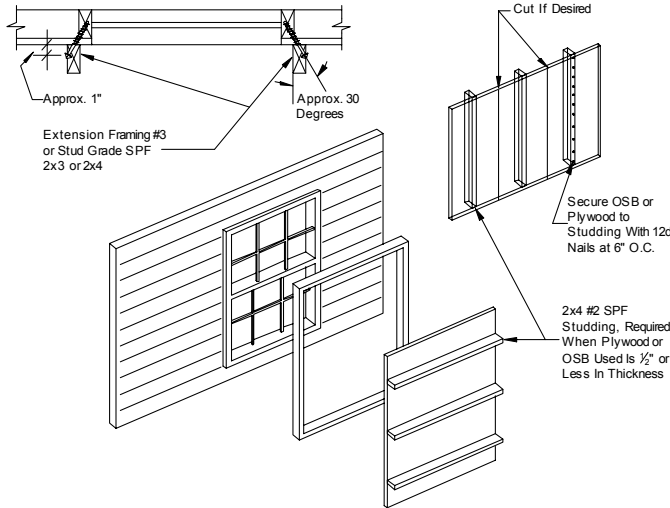

Figure 107. Wind protection shutter construction
If desired, prepare temporary protective window covers for use during severe wind storms and hurricanes according to **Figure 107**, **Table 32**, and the procedure below.
2. Assemble shutter panels as shown in **Figure 107**.